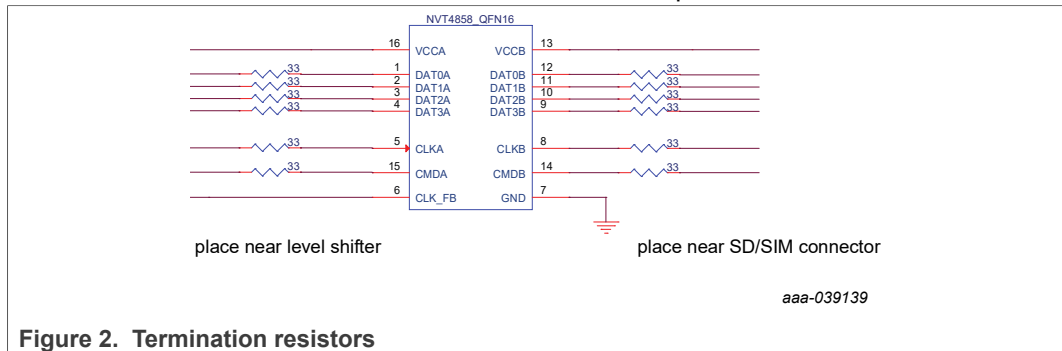

Figure 2. Termination resistors
- Series Termination and Placement – if series termination resistors are to be used, the suggested values are 22 Ω to 33 Ω . The termination resistors on the card side of the level shifter should be placed close to the card socket as shown in Figure 2.
IEC 417 and MIL-STD-1686 recommend that the symbol shown in Fig. 2(a) is used to mark ESD sensitive devices. The symbol should be supplemented by the notice 'ATTENTION – observe precautions for handling ELECTROSTATIC SENSITIVE DEVICES'. Where space is restricted, the simplified symbol shown in Fig. 2(b) may be used. Symbol and lettering should be in black on a yellow ground.
ESD-sensitive devices are packed in antistatic or conductive boxes or rails. Intimate (tube, tape, bag etc.) and proximity (level 1 box) packing is marked with the Fig. 2 symbol. ESD-sensitive devices not supplied in antistatic packing should be returned to the supplier. ESD-sensitive devices should be stored in their original packing, preferably in a cool place set aside for the purpose. Do not unpack them until they are required for incoming inspection or use in production.